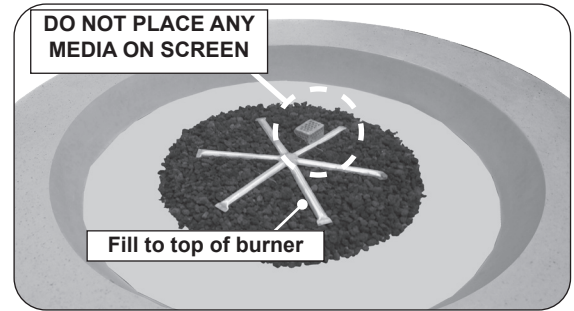
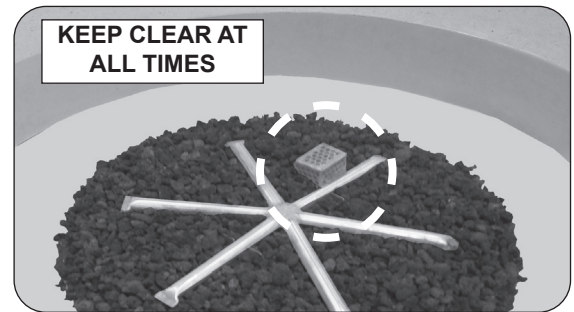

Fig. 31-1 Place lava granules
Fig. 31-2 Screen detail
1. Pour the 10 lb bag of lava granules into the burner area (with the exception of the screen). Spread the granules within the burner area as shown in Fig. 31-1 and Fig. 31-2. **Only fill the granules up to the top of the burner tube.**
**Note:** Select 12" star burner models only require half of the lava granules bag. **Do not overfill.** See Fig. 31-1 and Fig. 31-2.